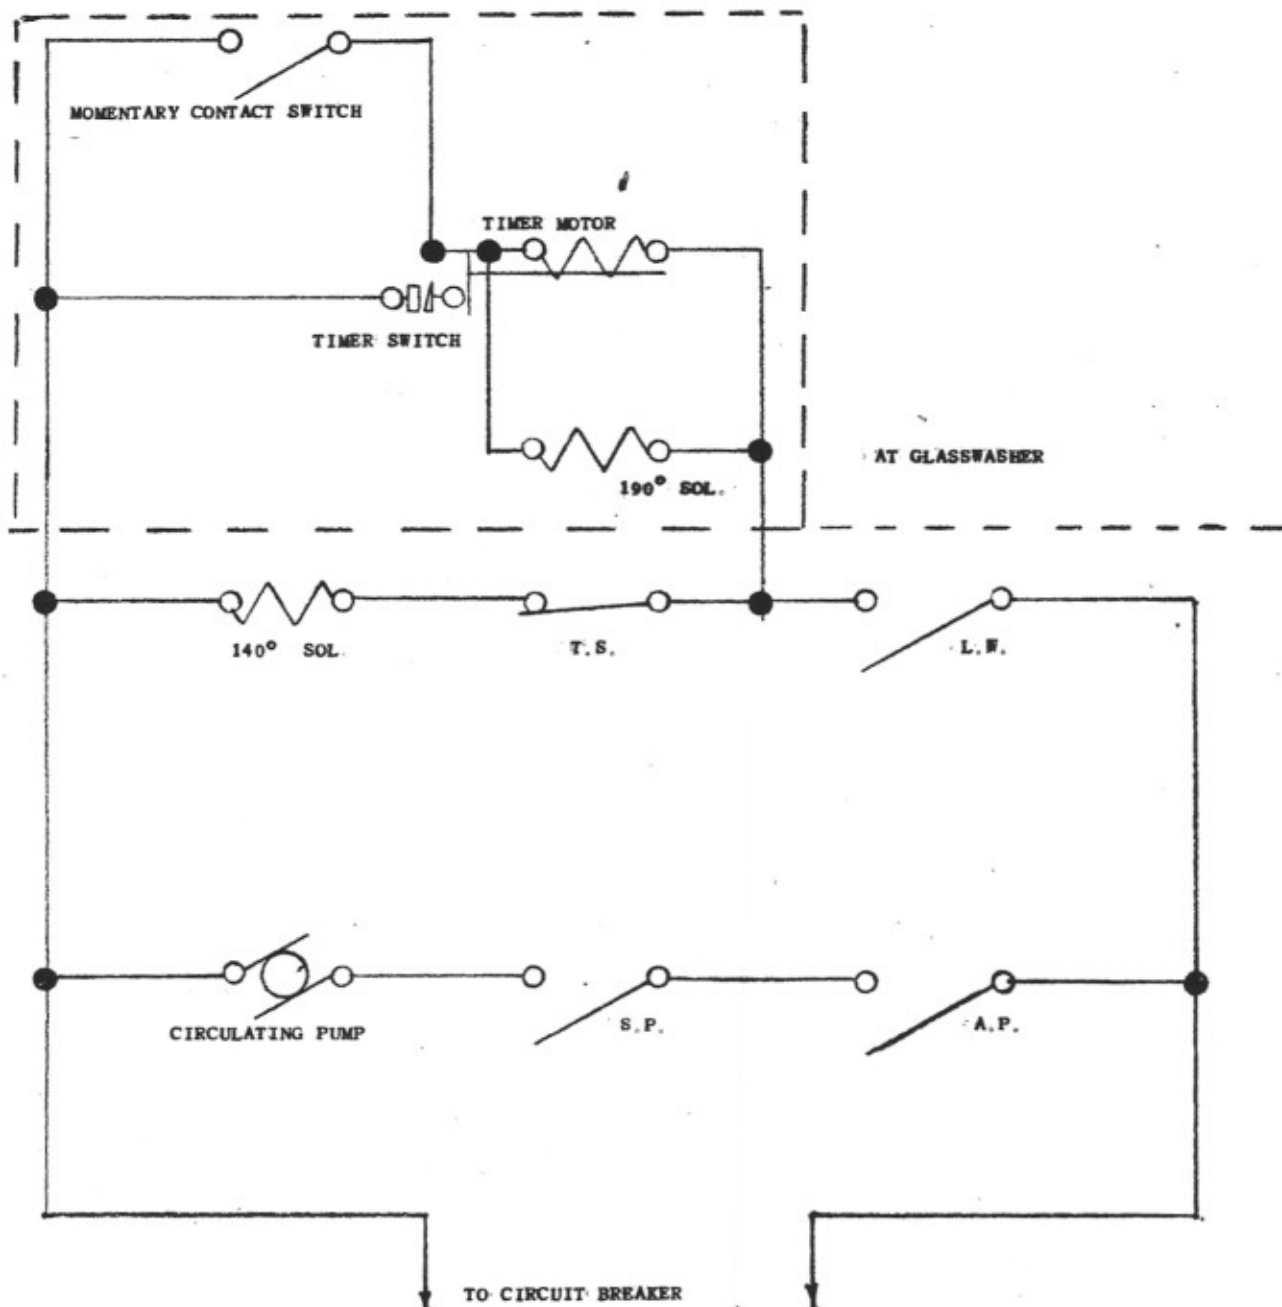

Figure 162
**ELECTRICAL:** Refer to Figure 162. The electrical components include one solenoid valve, in the 140 degree water line, a low water cut-off switch, steam pressure switch, air pressure switch, a water temperature switch in the 140 degree water, and a circulating pump in the 190 degree loop, which are all located on water heating unit under the car. The remaining controls for the unit are located in the Buffet, these consist of: a solenoid valve which controls the flow of 190 degree water to the glass washer, timer motor, time switch and momentary contact switch, which start the timer motor. The timer motor, time switch and momentary contact switch are at the glass washer. The 140 degree solenoid valve is connected in series with high temperature cut-out switch, Fenwall No. 18000 (No. 19) and low water cut-off switch. The contacts of the high temperature switch open, to prevent high temperature water from flowing to wash basins and buffet fixtures, whenever the water for the fixtures goes above 170 degrees. The low water cut-off is also in series with the 190 degree solenoid valve. It follows then that when the low water cut-off is open, no hot water is available. This prevents either 140 degree or 190 degree water being drawn from the system, when there is no cold water to replace it.